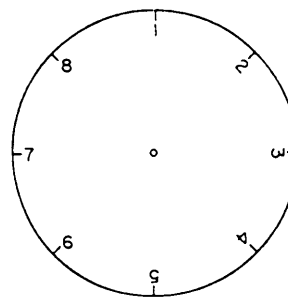

Figure 9-31.—A dial face.
Use a rotary table and a circular copy plate to engrave a dial face, such as the one shown in figure 9-31. Note that the figures on the right side of the dial are oriented differently from those on the left side; this illustrates the usual method of positioning characters on dials. The graduations are radially extended from the center of the face. The graduations also divide the dial into eight equal divisions.
9. To engrave numbers positioned as shown on the right side of the dial in figure 9-31, move the worktable so the cutter is in position to engrave the numbers. Rotate the circular copy plate to the numeral 1 and engrave it. Rotate the rotary table  $45^\circ$  and the circular
10. To engrave the numbers shown on the left side of the dial in figure 9-31, rotate the copy plate to the required number. Then, using the cross feed and longitudinal feed of the engraver table, position the cutter over the work at the point where the number is required. This method requires you to reposition the worktable for each number. As previously stated, movement of the engraver worktable in two directions results in angular misalignment of the character with the radius of the face; in this example, angular misalignment is required.